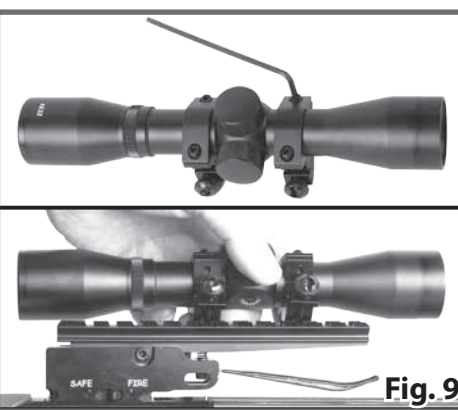

Fig. 9
1. Attach the Scope mount rings onto the scope using the scope mount screws (4)
3. Align the scope mount with the slots on the sight bridge rail. (Fig. 9)